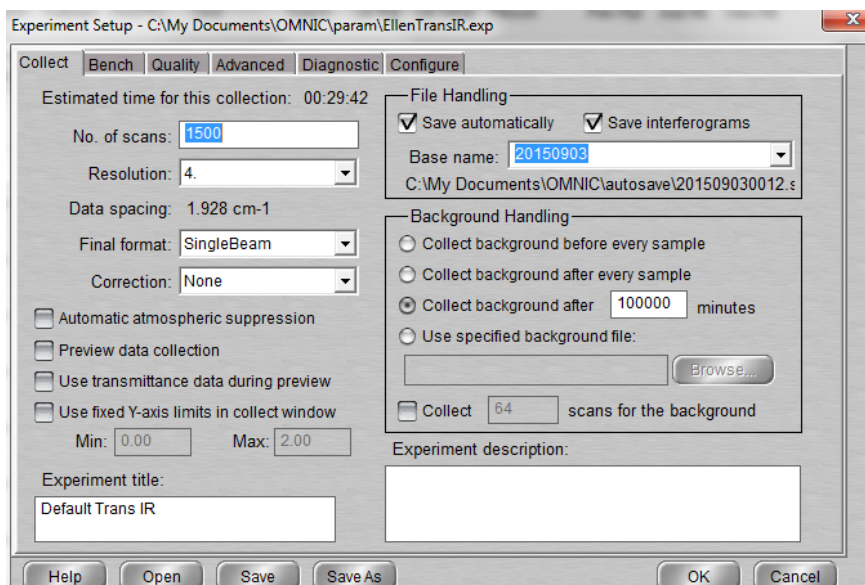

Figure 3 Bench tab of Experimental Setup Window
- b. Choose the Collect tab and you will see the window show in Figure 3